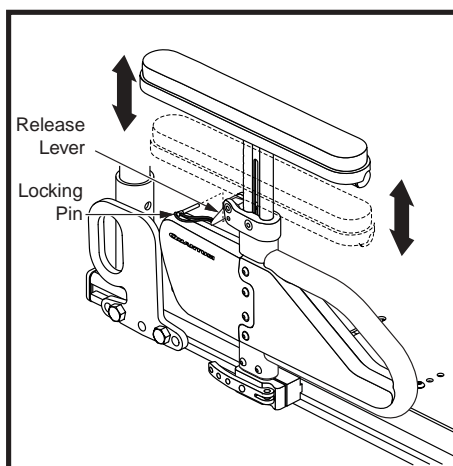

Figure 18. Single Post Quick Height Adjustable Armrest Top Height Adjustment
1. If present, remove the optional locking pin. See figure 18.